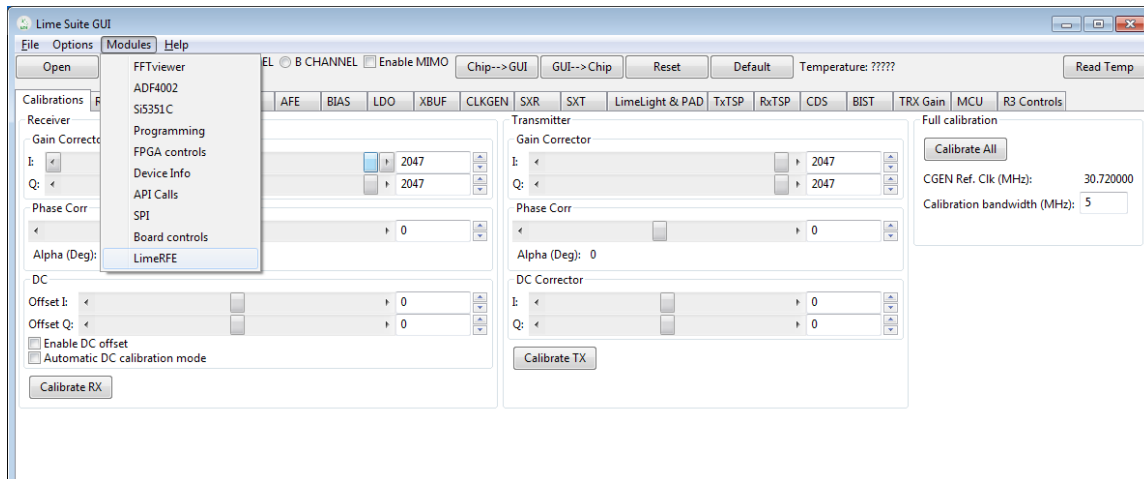

Figure 1: Lime Suite GUI window
- Open Lime Suite GUI and then go to Modules/LimeRFE, Figure 1.